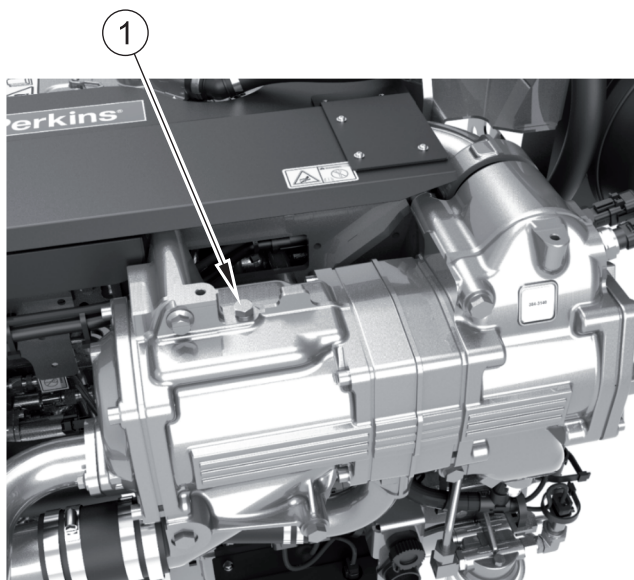

Figure 4
4. Remove the drain plug (figure 4 item 1) from the top of the heat exchanger.